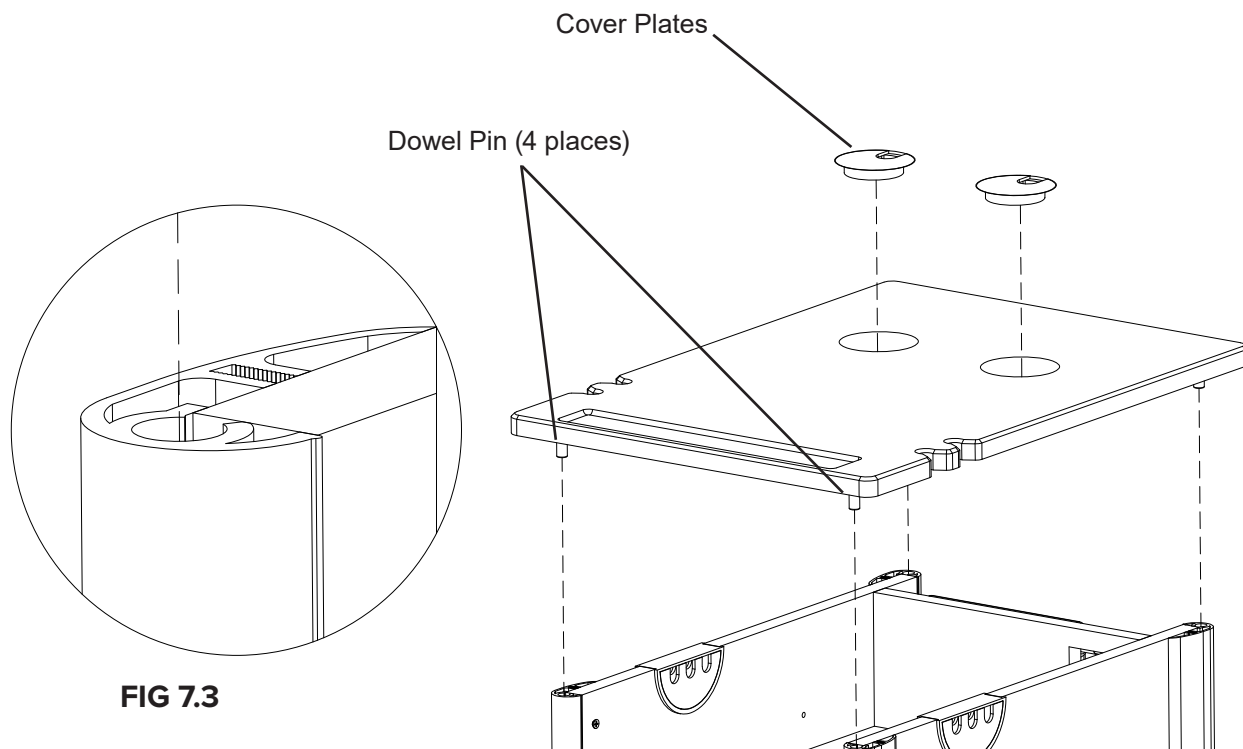

FIG 7.3
- 1.) Cover Plates are shipped in one of the drawers, install them as shown in Fig 7.3.
- 2.) Align 4 Dowel Pins on Corian worksurface with holes on the top of the Cart Body. See Fig 7.3.